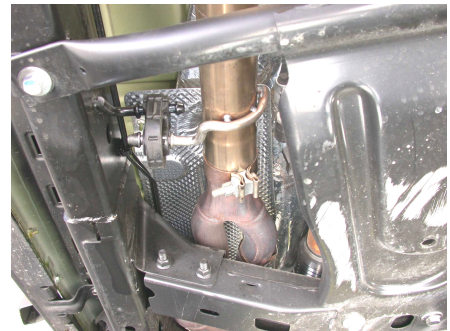

Figure 5
1. Place a clamp over the expanded end of the over axle pipe assembly and set it into position as shown in figure 5 making sure to install the hanger into the rubber isolator. Do Not tighten the clamp.